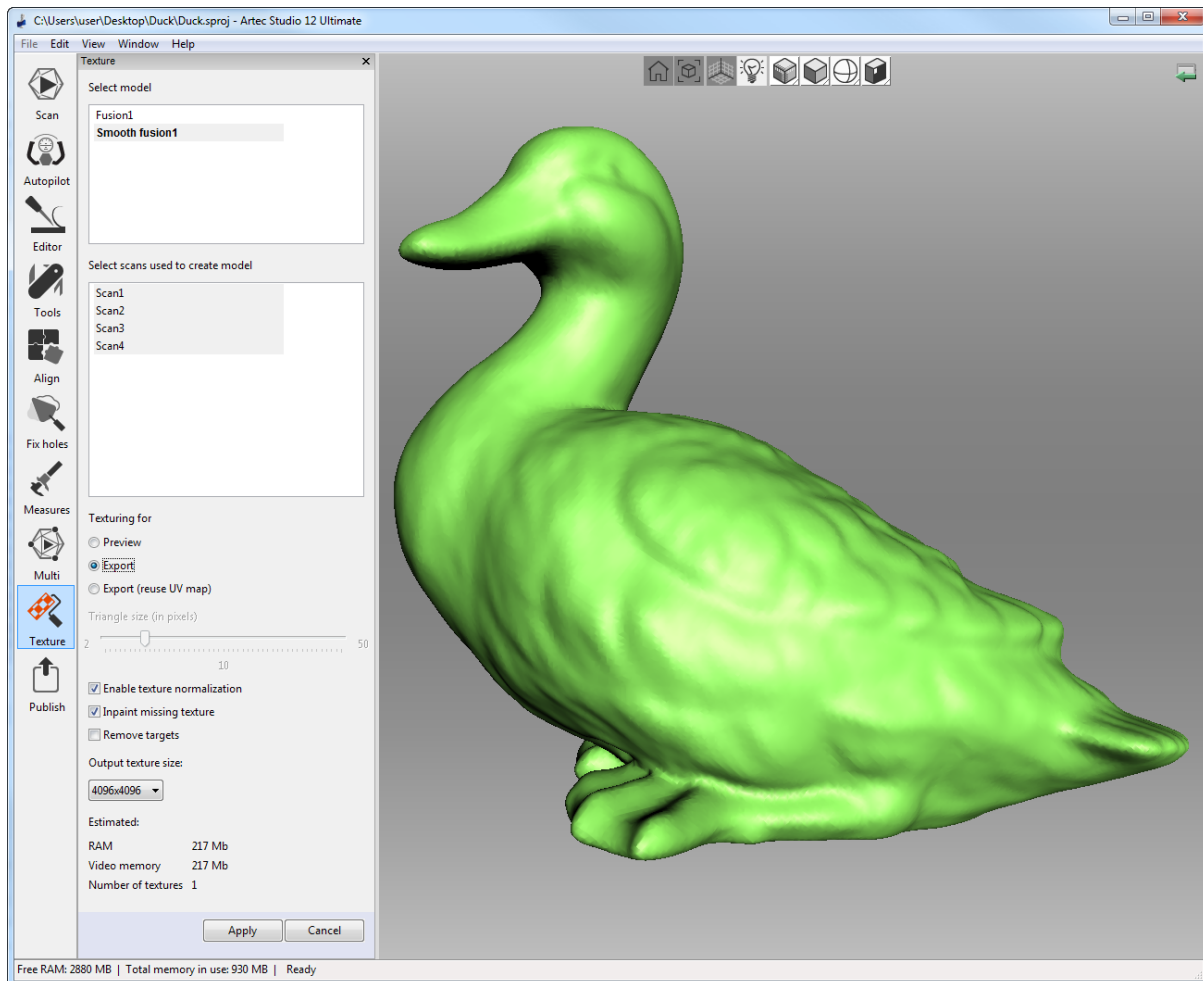

Figure 8.44: Choosing a texture-application method and adjusting its parameters.
2. Choose a model from the first list (see *Figure 8.44*); Artec Studio will apply the textures to this model